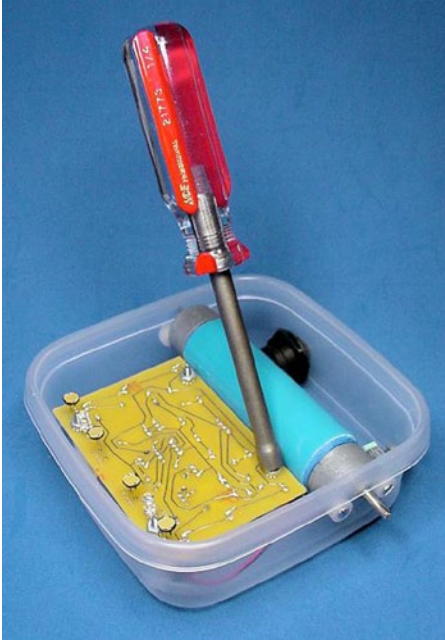

Figure 24-28. Nutdriver tightening nuts onto standoff screws
9. There are a number of options for tightening the nuts onto the screws. You can use needle-nose pliers, your fingers, a small crescent wrench, or a nutdriver (see Figure 24-28).